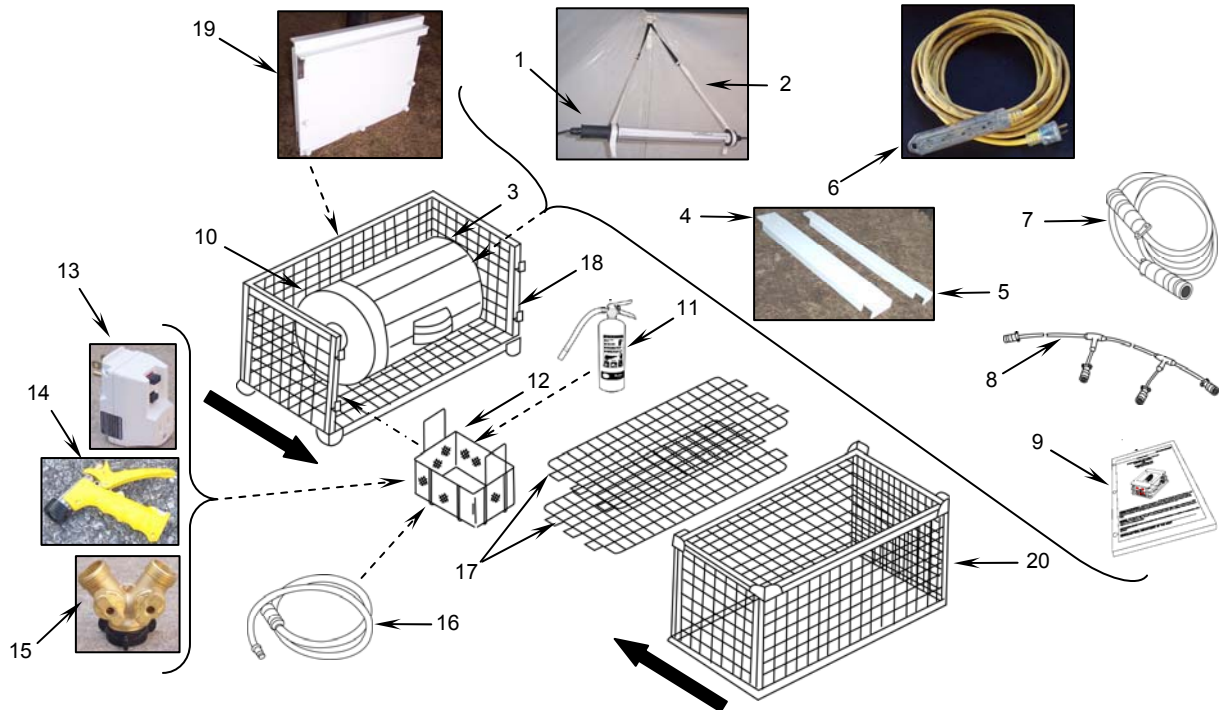

Figure 45. Packing First Storage Rack Assembly.
- a. Place the two electric lights (**Figure 45, Item 1**) and their light-hanging straps (**Figure 45, Item 2**) into one waste receptacle (**Figure 45, Item 3**).
- b. Wrap the two sink coupler heat shields (**Figure 45, Item 4**) and the sink edge heat shield (**Figure 45, Item 5**) in barrier material and place in the waste receptacle.
- c. Place the 100-ft extension cord (**Figure 45, Item 6**), and the 25-ft DC cable (**Figure 45, Item 7**) into the waste receptacle.
- d. Place the two 2-branch cables (**Figure 45, Item 8**) and burner manuals (**Figure 45, Item 9**) in the waste receptacle.
- e. Place the lid (**Figure 45, Item 10**) on the waste receptacle and seal with duct tape.
- f. Wrap the fire extinguisher (**Figure 45, Item 11**) in barrier material and place into the immersion rack (**Figure 45, Item 12**).
- g. Place the GFCI (**Figure 45, Item 13**), hose nozzle (**Figure 45, Item 14**), and Y-adapter (**Figure 45, Item 15**) in the immersion rack.
- h. Place the coiled 20-ft fuel line (**Figure 45, Item 16**) on top of the fire extinguisher in the immersion rack.
- i. Place two shelves (**Figure 45, Item 17**) into the bottom of an empty storage rack assembly (**Figure 45, Item 18**).
- j. Nest the three sink front heat shields (**Figure 45, Item 19**) together, wrap in barrier material, and stand up inside and against the back of the storage rack assembly.
- k. Place packed waste receptacle (**Figure 45, Item 3**) and packed immersion rack (**Figure 45, Item 12**) into the storage rack assembly (**Figure 45, Item 18**).
- l. Using a two-person lift (one person on each end), turn a second storage rack (**Figure 45, Item 20**) upside down and position it so that its empty side faces the empty side of the first storage rack (**Figure 45, Item 18**).
- m. Nest the second storage rack (**Figure 45, Item 20**) over the first storage rack (**Figure 45, Item 18**) to form a box.